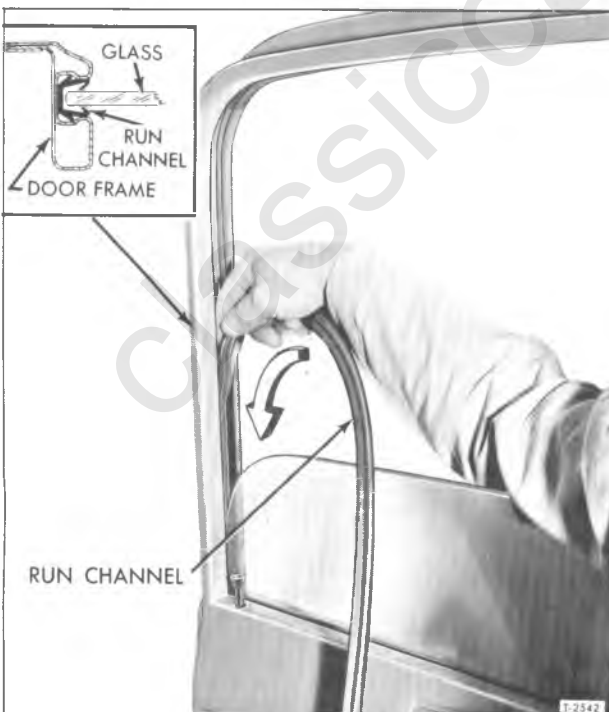

Figure 26—Installing Window Glass Channel Run
REMOVAL (Fig. 26)
INSTALLATION (Fig. 26)
2. Start end of run channel into door side frame, then force it downward in manner shown in figure 26. By engaging length of channel required to butt against vent window frame, the amount of channel to be inserted downward can be determined. Use thumbs to press channel into position.
Referring to inset of figure 26, be sure to properly position run channel so that channel lips lock behind grooves of window frame.